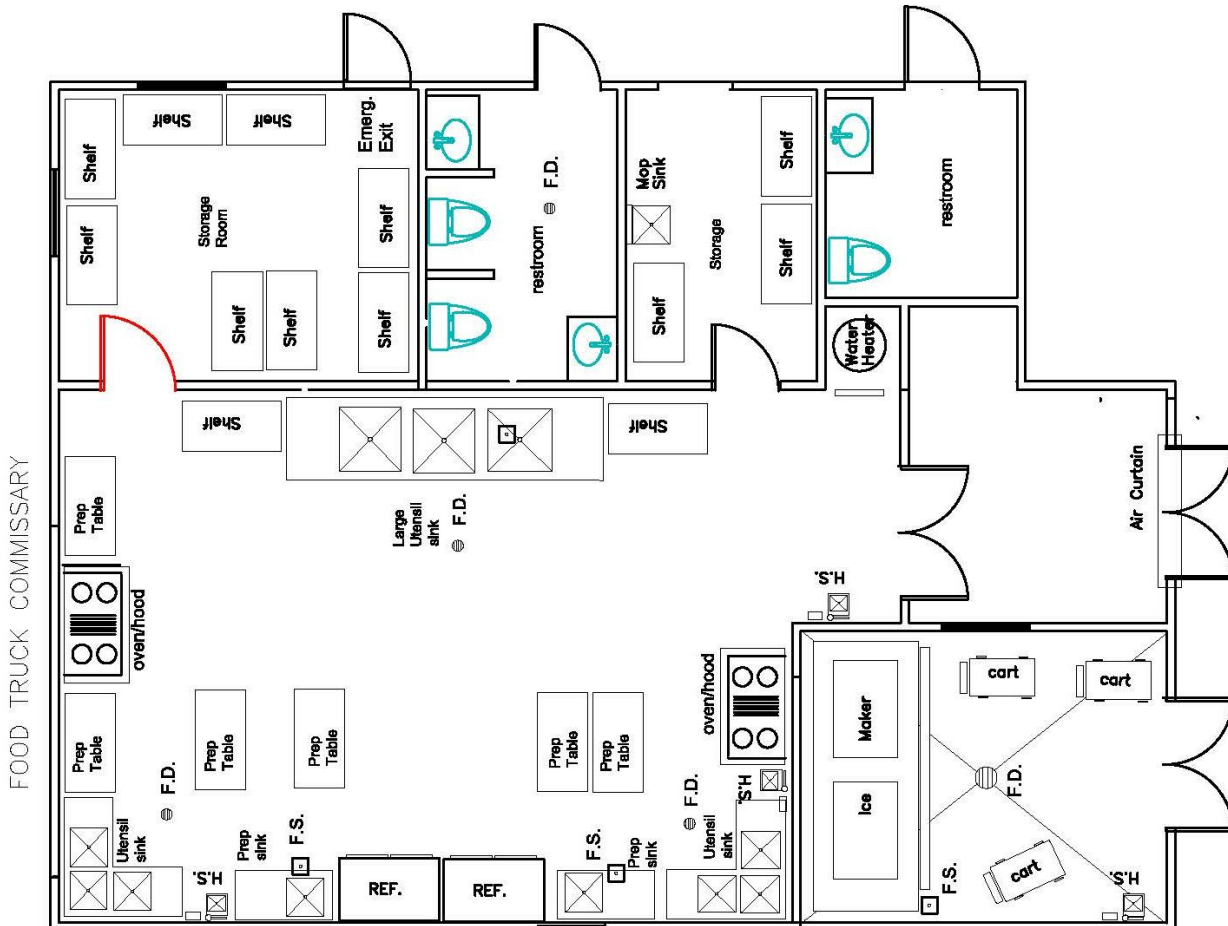

Figure 1
A. Figure 1- Commissary Warehouse